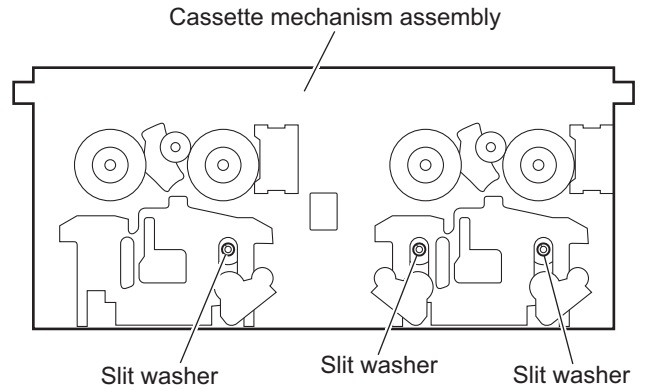

Fig.4
### 3.3.3 Removing the clutch assemblies (See Figs.4 to 7)
- (1) From the front side of the cassette mechanism assembly, remove the three slit washers attaching the flywheel 1, flywheel 2 and flywheel 3. (See Fig.4.)